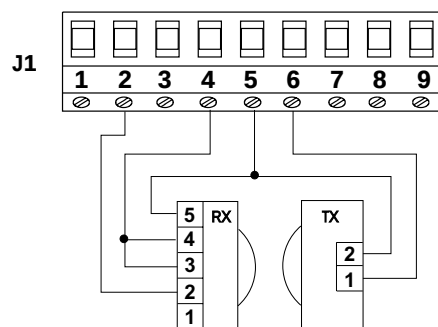

Fig. 12
Failsafe is an electronic system for checking efficiency of the connected photo cells. The check is effected before each closing activation by the motors, by temporarily cutting power to the photocell projector (TX) to check the resulting opening of the contact on the receiver (RX). If this does not occur, the movement of the automatic system is disabled for reasons of safety. *To enable Failsafe, a separate power supply to the photocell projectors (Fig.12) is necessary.*